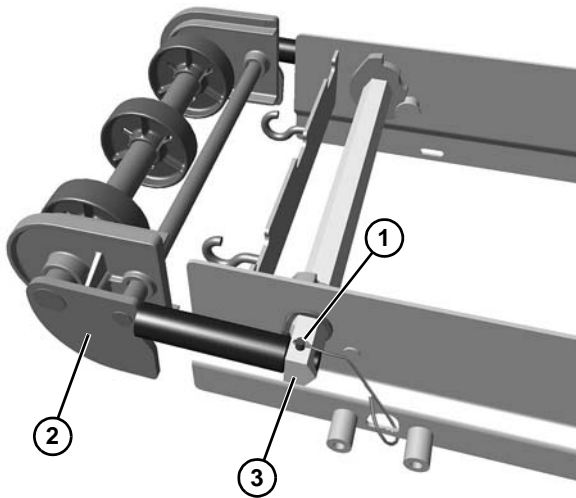

Figure 56
1. Remove the pull pins (Figure 56, item 1) from both sides of idler tail assembly.
2. Slide the idler tail assembly (Figure 56, item 2) out of the tip up hex shaft assembly (Figure 56, item 3).